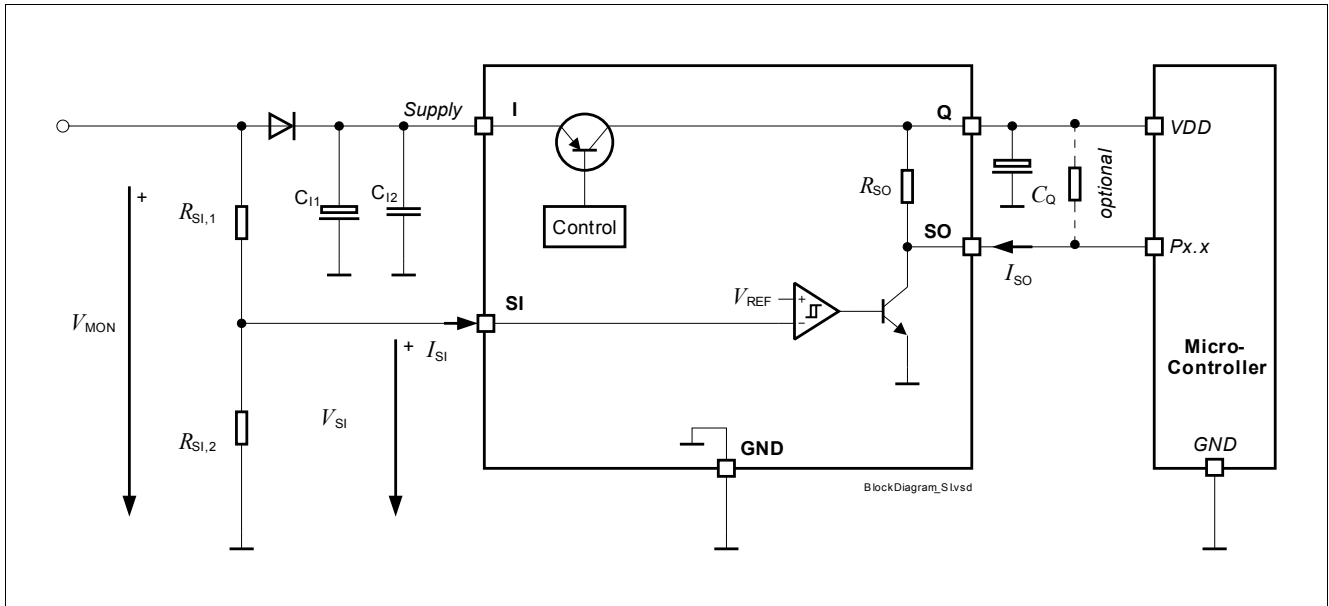

Figure 9 Diagram
- $R_{SI,1}$, $R_{SI,2}$: Resistors of the external voltage divider, see Figure 9.
$V_I = 13.5\text{ V}$, $T_j = -40\text{ °C}$ to $+150\text{ °C}$, all voltages with respect to ground, direction of currents as shown in Figure 9 (unless otherwise specified)